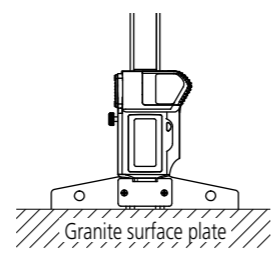

Fig. 3
4. Set up the origin point on a flatness-assured surface such as precision surface plate. (Fig. 3)